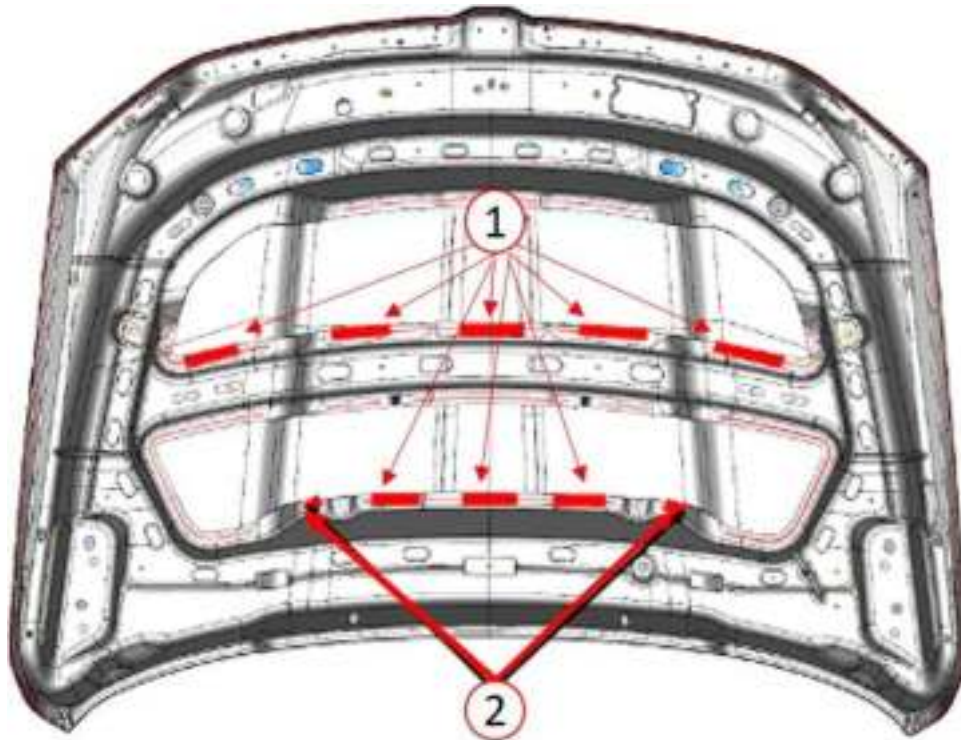

Fig. 4
6. Apply a 5 mm (0.2 in) diameter windshield urethane (MOPAR #04187367AB) bead 50 mm (2.0 in) in length (Fig. 4) at these locations in (Fig. 5) .